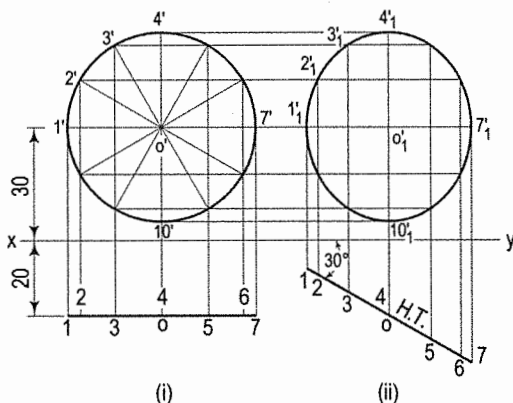

FIG. 12-11
**Problem 12-5.** (fig. 12-11): Draw the projections of a circle of 50 mm diameter, having its plane vertical and inclined at  $30^\circ$  to the V.P. Its centre is 30 mm above the H.P. and 20 mm in front of the V.P. Show also its traces.
- (i) Assuming the circle to be parallel to the V.P., draw its projections. The front view will be a circle [fig. 12-11(i)], having its centre 30 mm above  $xy$ . The top view will be a line, parallel to and 20 mm below  $xy$ .
- (iii) When the circle is tilted, so as to make  $30^\circ$  angle with the V.P., its top view will become inclined at  $30^\circ$  to  $xy$ . In the front view all the points will move along their respective paths (parallel to  $xy$ ). Reproduce the top view keeping the centre  $o$  at the same distance, viz. 20 mm from  $xy$  and inclined at  $30^\circ$  to  $xy$  [fig. 12-11(ii)].